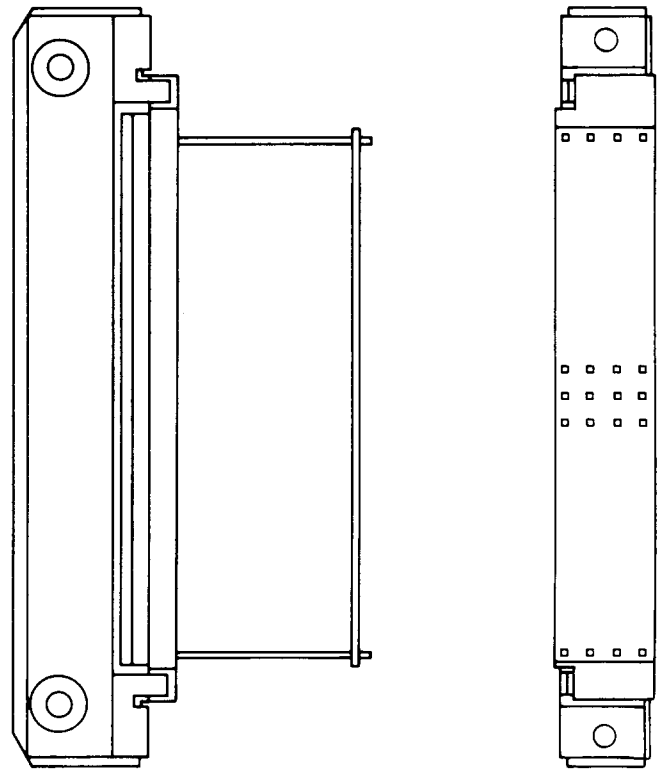

Fig. 18—985A Connector
**2.14 985A:** The 985A connector (Fig. 18) consists of 2 molded insulating parts, 2 metal covers riveted to 1 of the molded parts, and 82 terminals. The terminals are 0.025 inch square positioned on 0.125 inch centers on a backplane grid, designed to accommodate a multilayer printed wiring board and up to 3 levels of 28 or 30 AWG solderless wrapped connections. The connector is designed for use with the 984A connector in RSS.